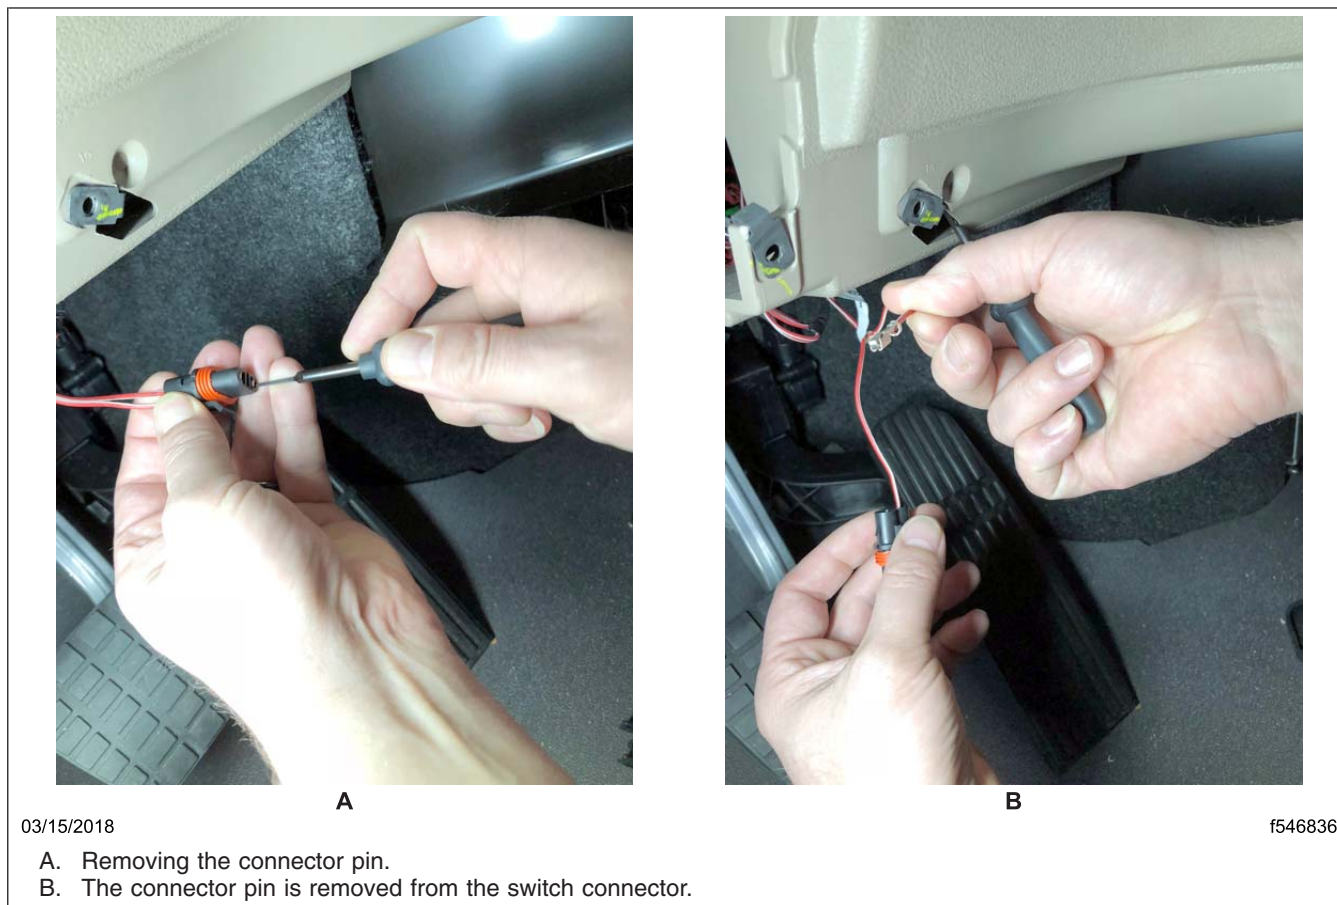

Fig. 7, Removing the Connector Pin
- Using the automotive connector terminal removal tool (DKI0CHA17002-1), remove one of the pins from the connector. See Fig. 7.